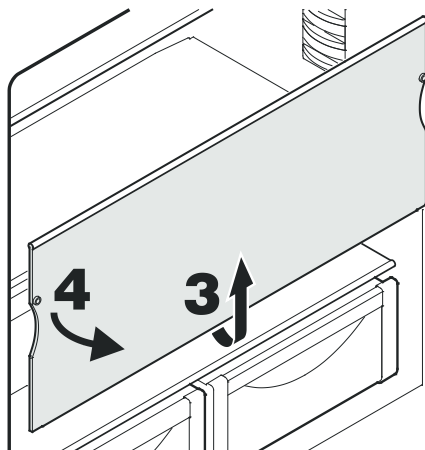

Figure 15
## Removing the shelves - Figure 15
- Remove glass shelves as shown in **Figure 15**.